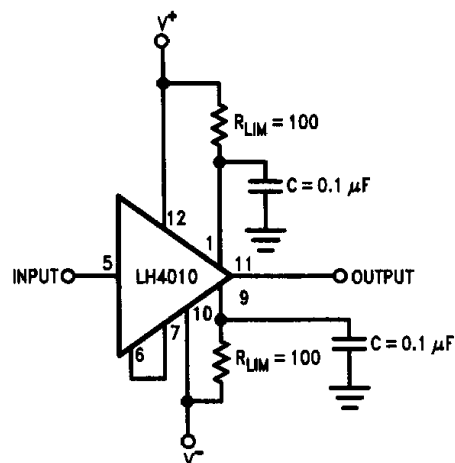

FIGURE 2
**Short Circuit Protection:** In order to optimize transient response and output swing, output current limit has been omitted from the LH4010 and LH4010C. Short circuit protection may be added by inserting appropriate value resistors between  $V^+$  and  $V_C^+$  pins and  $V^-$  and  $V_C^-$  pins as illustrated in Figure 2. Resistor values may be predicted by: